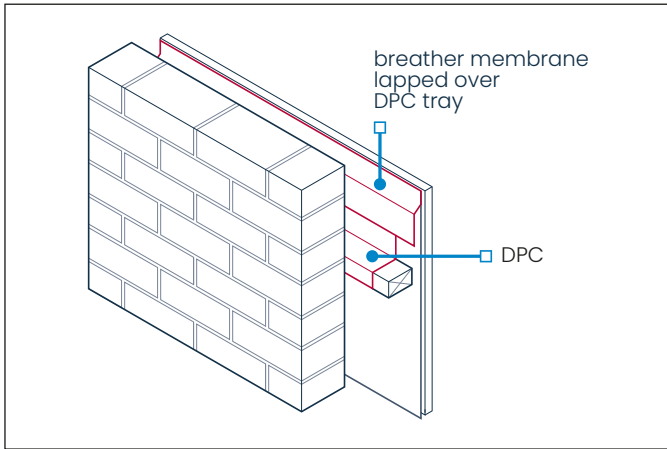

Figure 3 – Horizontal timber cavity barrier
- Horizontal timber cavity barriers – Horizontal timber cavity barriers, except under eaves, should be protected with a DPC arranged to shed moisture away from the sheathing, with a 100mm upstand lapped behind the breather membrane. See Figure 3.